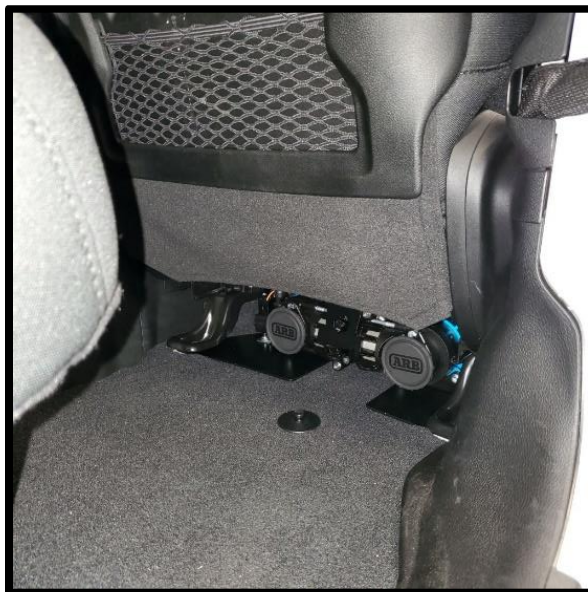

Figure 25
3-F) Now tilt the passenger seat back into position, reinstall the front seat bolts finger tight only. Move to the back of the seat and align the holes of the mounting bracket assembly with the holes for the rear seat legs (**Figure 25**). Reinstall the rear seat bolts finger tight only. Check under the seat for clearance and ensure there is no inference, or anything is pinched. Tighten all four (4) seat bolts starting with the front first. While looking under the seat slide the seat forward and back to confirm clearance once again.